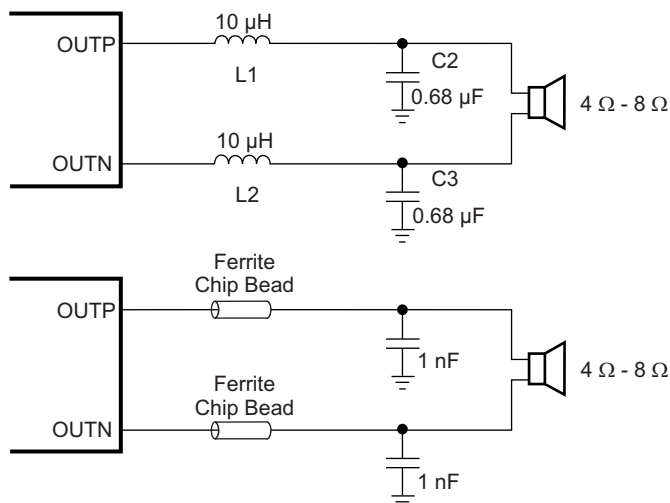

Figure 35. TPA31xxD2 Output Filters
- **Output filter** — The ferrite EMI filter (see Figure 35) should be placed as close to the output terminals as possible for the best EMI performance. The LC filter should be placed close to the outputs. The capacitors used in both the ferrite and LC filters should be grounded.